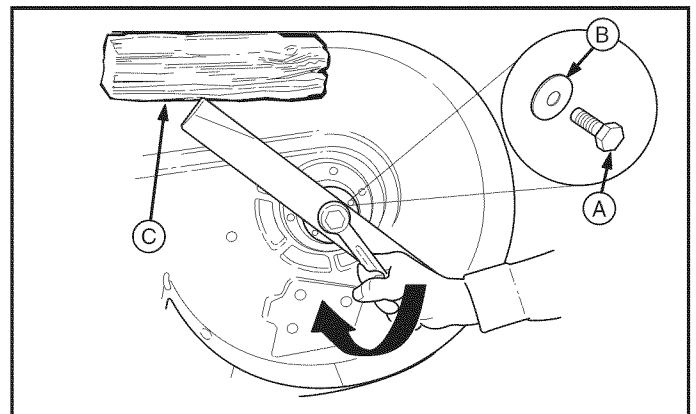

Figure 29
3. Remove capscrew (**A**, Figure 29), spring washer (**B**) and blade.
6. Reinstall the blade (Figure 29) with the airlifts pointing up toward the mower deck as shown.